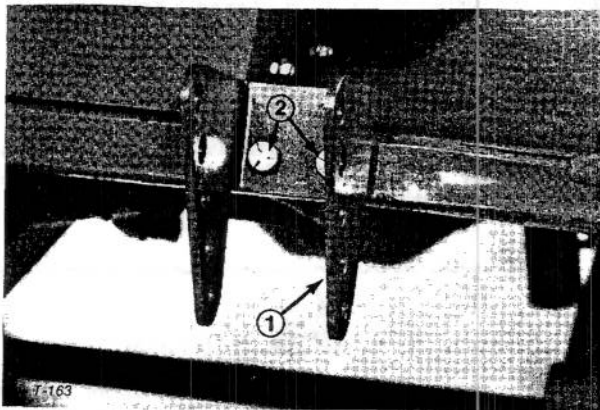

Figure 9
1. Assemble bracket to frame and secure with capscrews, lockwashers and nuts (Fig. 9).